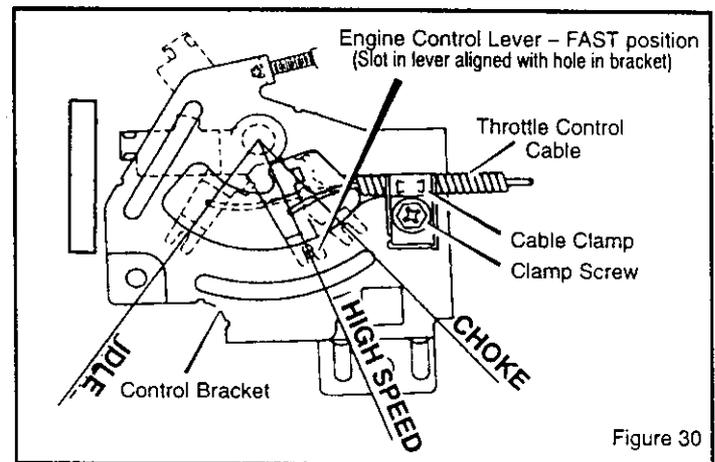

Figure 30
2. Loosen the **clamp screw** so that the **throttle control cable** can move in the **cable clamp** (Figure 30). Do not remove the **cable clamp** or disconnect the **throttle control cable** from the **engine control lever**.